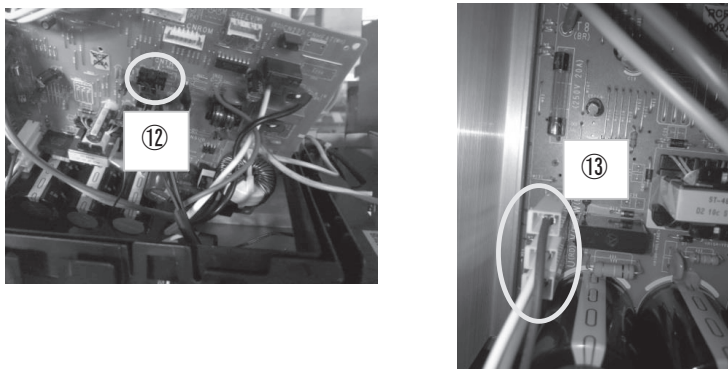

Fig.6 CnTH and power cable of compressor(U,V,W)
- 12) Disconnect CnTH(Black) on control PCB. (Fig.6 ⑫)
- 13) Disconnect a power cable of compressor(U,V,W) from control PCB. (Fig.6 ⑬)